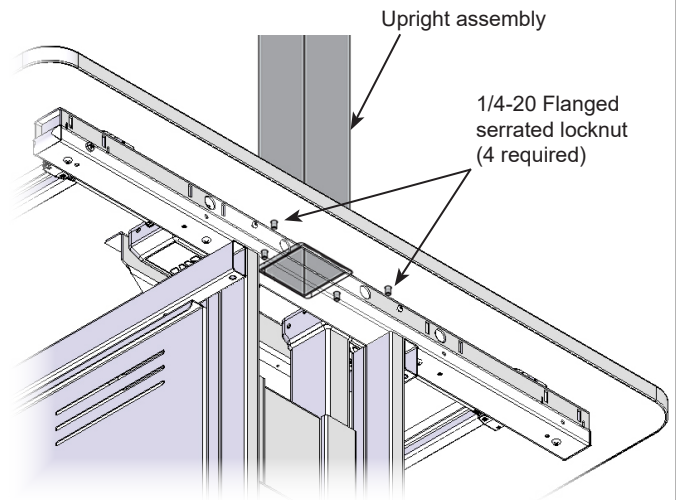

Figure 6.2
4. With a second person holding the upright, install the (2) inner 1/4-20 Flanged serrated locknuts. **Figure 6.2.**
6. Install the (2) outer 1/4-20 flanged serrated locknuts.